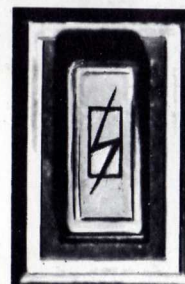

Fig. 24 - Electric heating for rear-window
**Electric heating for rear-window (if fitted) (Fig. 24)**